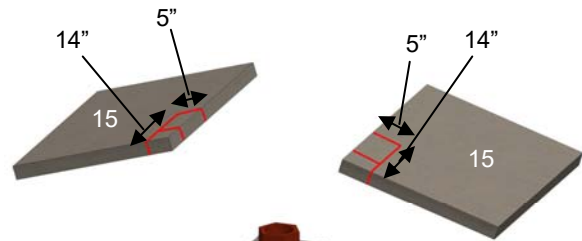

Figure 28. Oven Roof
V. Cut out the front corners of the roof panels (15) to clear the oven chimney as outlined in red, approximately 14" from the front, and 5" from the side. Using the pieces cut from the roof panels, cut two pieces approximately 5" by 4". Mortar the main roof panels into place, and mortar the small pieces for the area in front of the chimney section. Note that for increased thermal efficiency, the void between the oven roof and the enclosure roof may be filled in with a non-combustible insulating material, such as vermiculite, if desired. See Figures 28 & 29.